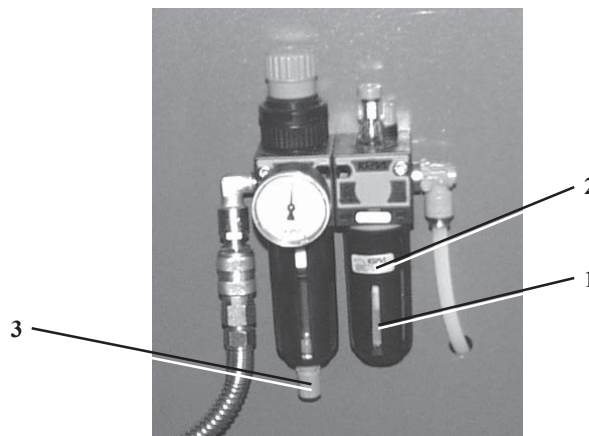

Fig. 7.2
- Through the openings (1, fig. 7.2) of the oil tank (2) check the oil level.
- Open the valve (3) in order to release possible residual air.
- With the special pin wrench grip the openings and loose the tank (2) after that take off the tank
- Remount everything and fasten the valve (3).